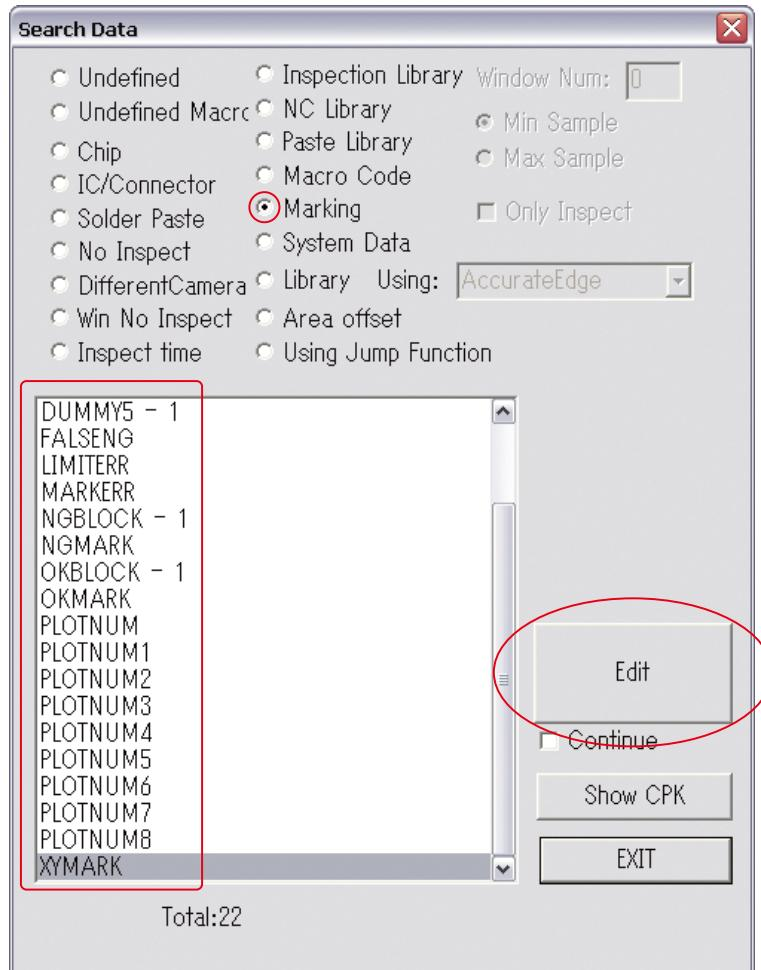
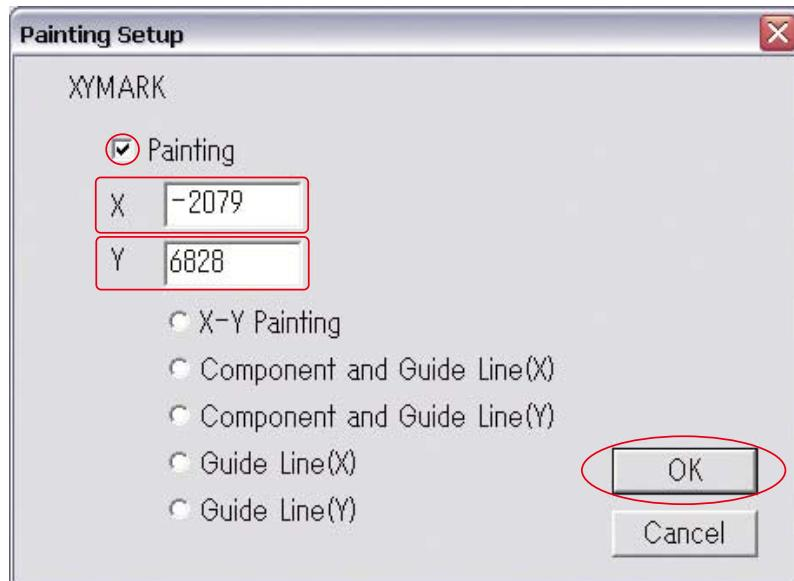
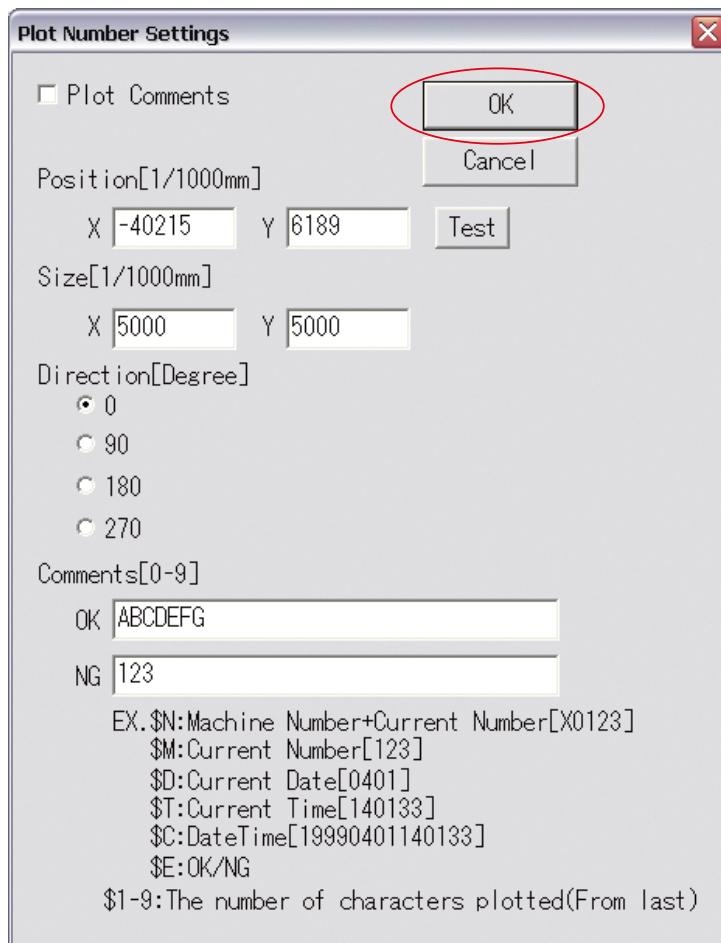

Figure 2-6 Search Data
Figure 2-7 Painting Setup
Figure 2-9 Plot Number Settings
Step2: Select **Edit > Search** from the menu-bar. **Search Data** window shown in Figure 2-6 appears.
Check the **Marking** in Figure 2-6 **Search Data**, select XYMARK and press **Edit**. **Painting Setup** window shown in Figure 2-7 appears. Refer to Table 2-4 **XY Painting Setup** and proceed the setup procedures. After all the settings are completed, press **OK**.
Check the **Marking** in Figure 2-6 **Search Data**, select PLOTPNUM(Plot Number) and press **Edit**. **Plot Number Settings** window shown in Figure 2-9 appears. Refer to Table 2-5 **Plot Number Settings** and proceed the setup procedures. After all the settings are completed, press **OK**.
Check the **Marking** and select one from the following items in the window of Figure 2-6 **Search Data**, FALSENG, LIMITERR, MARKERR, NGBLOCK-1, NGMARK, OKBLOCK, or OKMARK. Press **Edit**.